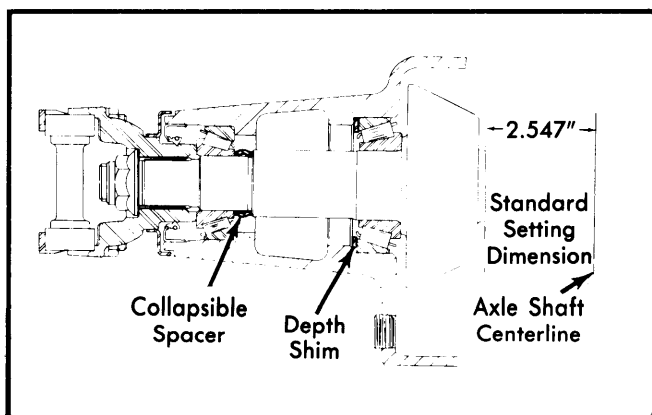

Fig. 5 Sectional View Showing Pinion Depth, Shim Location and Collapsible Spacer Location
Drive Pinion (Installation & Depth Adjustment) – 1) Pinion gear depth is distance from end face of pinion to the axle shaft centerline. This dimension is controlled by shims installed between pinion gear bearing and axle housing. See Fig. 5.
13) Attach gauge block clamp (J-5223-14) to housing using a housing cover bolt. Tighten clamp bolt down against gauge block to prevent block from moving. See Fig. 5.